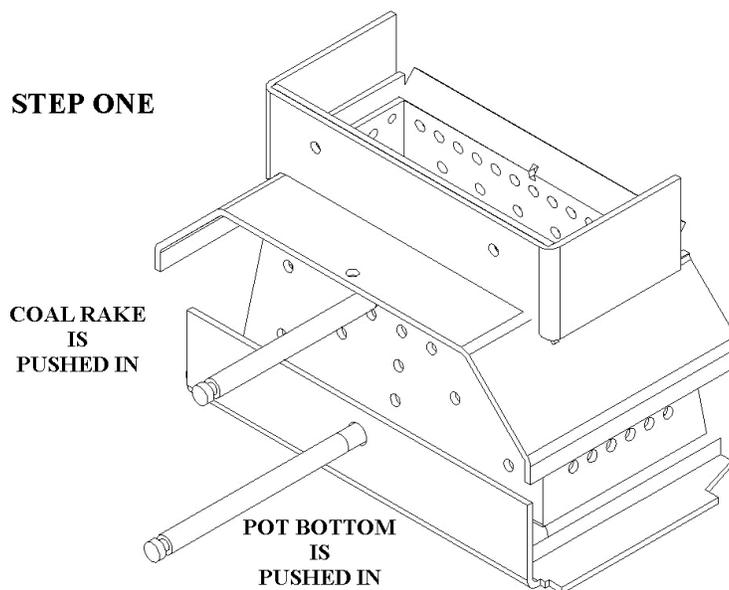

Figure 24
Step 1 - The Coal Rake. (See figure 24) The first step is to open the door and add a ¼ cup of the **starter** pellets on top of the coals. Then push the coal rake in and separate the burning coals from the top of the clinker. To push in the Coal rake, use the Rod Handle tool that came with the unit.